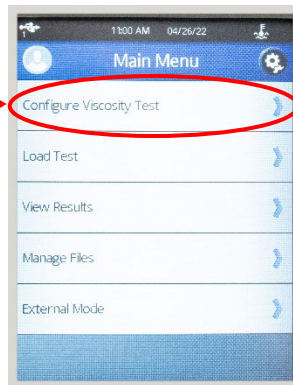

Figure 30: Main Menu of the Head Unit
18. Now that the appropriate offset is selected, press the **Back** button , three times to return to the Main Menu and select **Configure Viscosity Test**. See Figure 30.